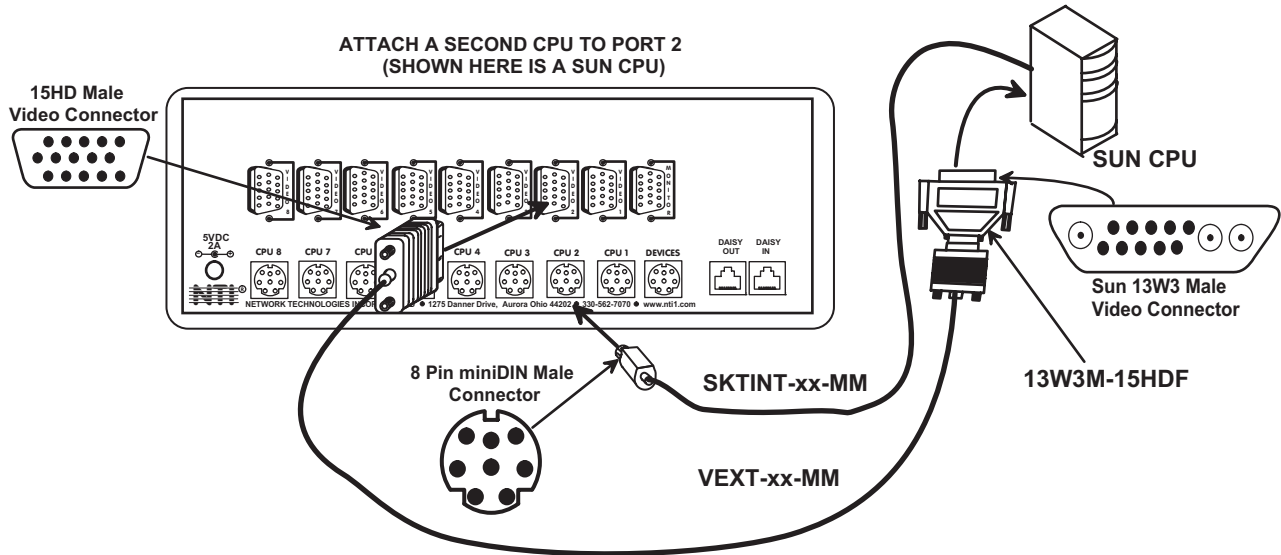

Figure 10- Connect a SUN CPU
- SUN CPU-** Connect a SUN CPU video port using a VEXT-xx-MM cable with a 13W3M-15HDF adapter between a VIDEO x port on the ST-xU and the CPU. Connect the SUN CPU keyboard/mouse port using an SKTINT-xx-MM between a CPU-x port on the ST-xU and the CPU. (See Fig. 10.)